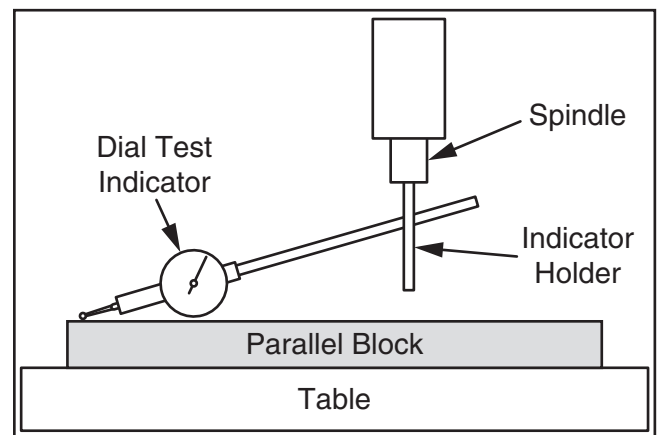

Figure 61. Dial test indicator mounted.
4. Install indicator holder in spindle or on quill, then mount indicator so that point is as parallel to block as possible (see **Figure 61**).
6. Rotate spindle by hand so that indicator point rests on one end of parallel block, as illustrated in **Figures 61–62**, then zero the dial.